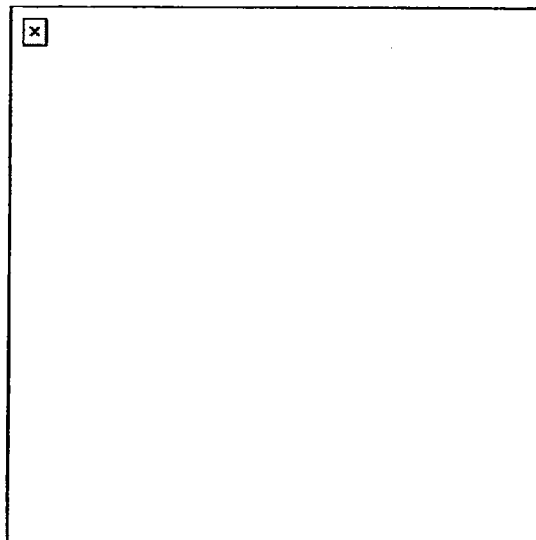

Figure 7. Sliding of gun onto mounting lugs.
- a. Lower the gun into the mount. Slide the gun's front grooves onto the mounting lugs (Figure 7).